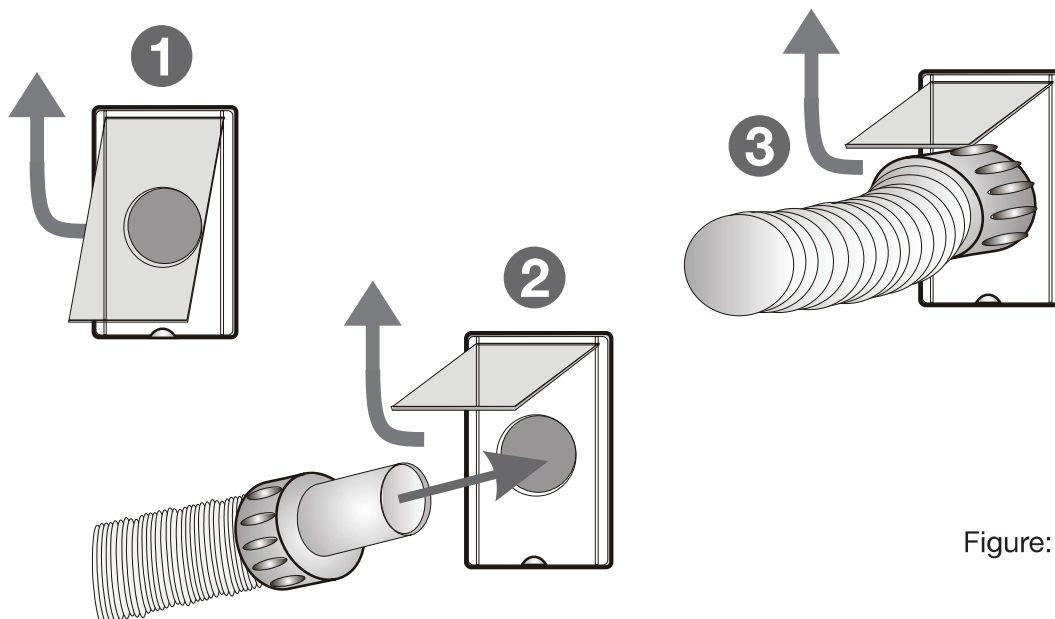

Figure: 1
1. Plug in the cuff end of the hose into the nearest wall inlet inside your home and the power unit will automatically turn on, ready for you to begin vacuuming. (See Figure.1)
2. When you have finished vacuuming simply unplug the cuff of the hose out of the inlet and hold the door of the inlet open for five (5) seconds until the suction subsides. This time delay is used to clear any debris from the piping system which may otherwise cause clogging.